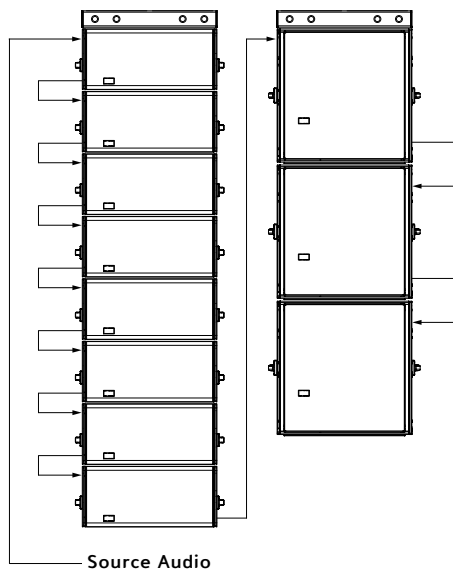

Figure 5: Flown Separate Arrays (ratio 8:3)
- Flown separate arrays of LINAs and 750-LFCs (Figure 5)